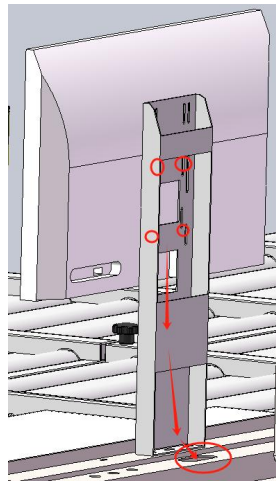

Fig. 23 Position of fixing screws of the monitor and cable route
Step 2: Connect the power cable and video cable in the monitor package, make it get through the bottom cable hole to access the lower part of the machine case for connecting the mainframe of the computer. Figure 23 shows the position of the fixing screws of monitor and the cable route.